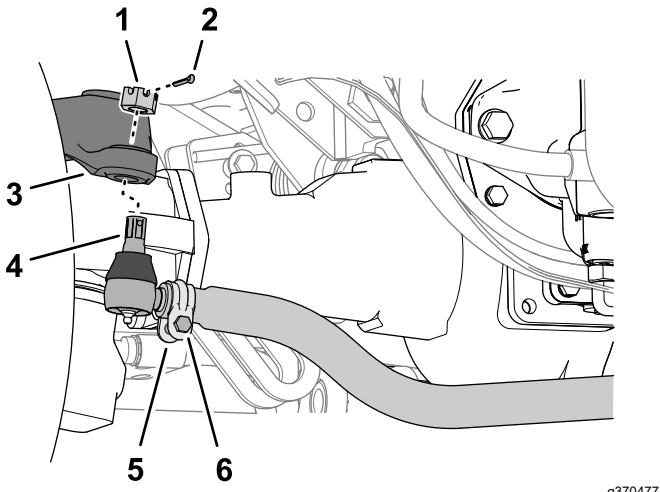

Figure 143
1. At the rear axle, remove the cotter pin and the slotted nut from either tie-rod end (Figure 143).
3. Loosen the clamps at both ends of the tie rods (Figure 143).